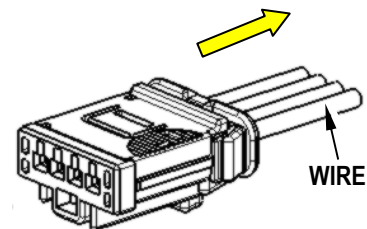

Figure 4
5. Slide the Extractor Tool in the direction shown, lifting up the housing lock. While lifting the housing lock, push the terminal back through the connector slot and pull the terminated wire out in the arrow direction. See Figure 4.